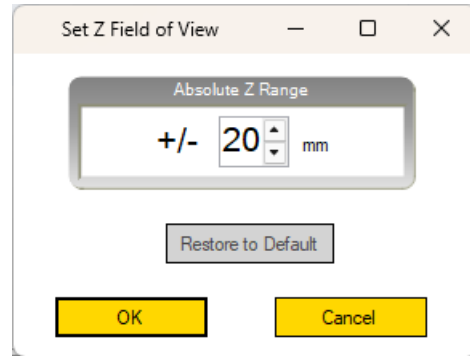

Figure 29: Setting the Absolute Z Range
- a. In this example, the Absolute Z Range is set to +/- 20mm from the nominal focus position (Z FOV dimension of 20mm total). See Figure 29 on page 55.
To restore FOV Z tolerances back to the default settings, simply navigate to the "Set Z Field of View" window (as seen in Figure 29) and click "Restore to Default." Acknowledge the changes, close IPGScan, and reopen IPGScan for the changes to take effect.